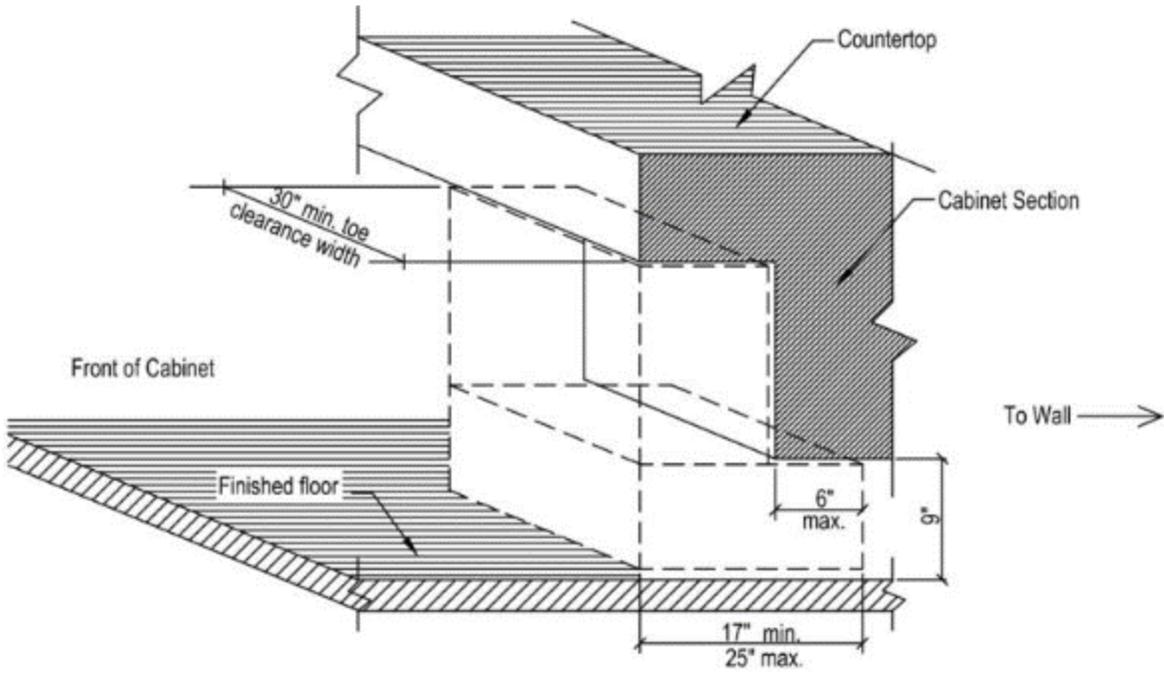

Figure 1: Toe Clearance
- E. The clear floor space for ranges or cook-tops shall be positioned for parallel or forward approach. Toe and knee clearance shall be provided per Figures 1 and 2 when clear floor space is positioned for forward approach. (ICC 306)